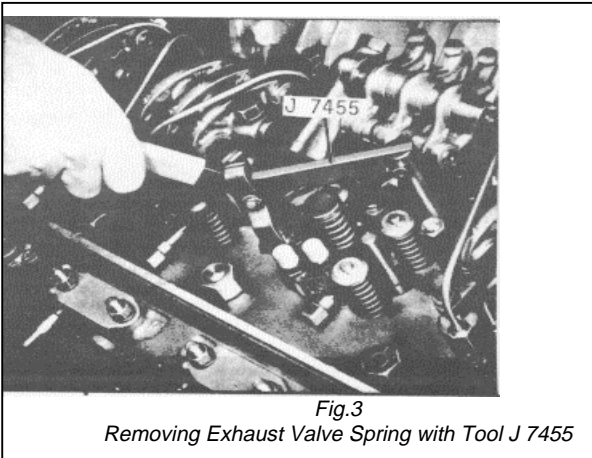

Fig.3
- (4) Remove the two bolts holding the rocker arm shaft brackets to the cylinder head. Then remove the brackets and shaft.
- (5) Remove the exhaust valve bridge.
- (6) Remove the cylinder block air box cover so that piston travel may be observed, then turn the crankshaft until the piston is at the top of its stroke.
- (7) Thread the valve spring compressor adaptor J 7455-7 into the rocker arm bracket bolt hole in the cylinder head (Fig. 3). Then compress the valve spring and remove the two-piece tapered valve lock.
- (8) Release the tool and remove the spring cap, valve spring and spring seat.